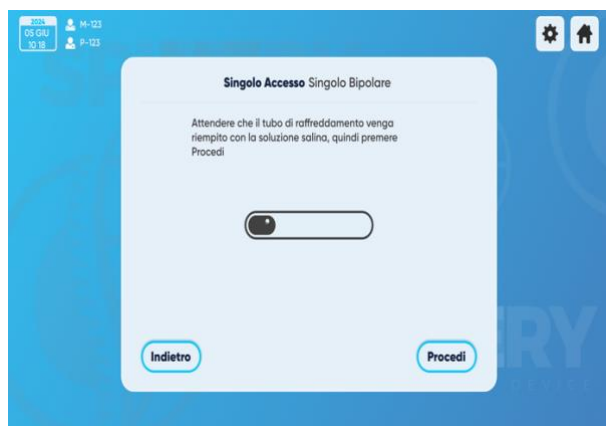

Figure 6 – Single Access De-Bubbling Screen
4. The illustrated instructions (Figure 6/ 7) inform you that the saline water is recirculated in the closed cooling system to ensure total de-bubbling of the pipes.